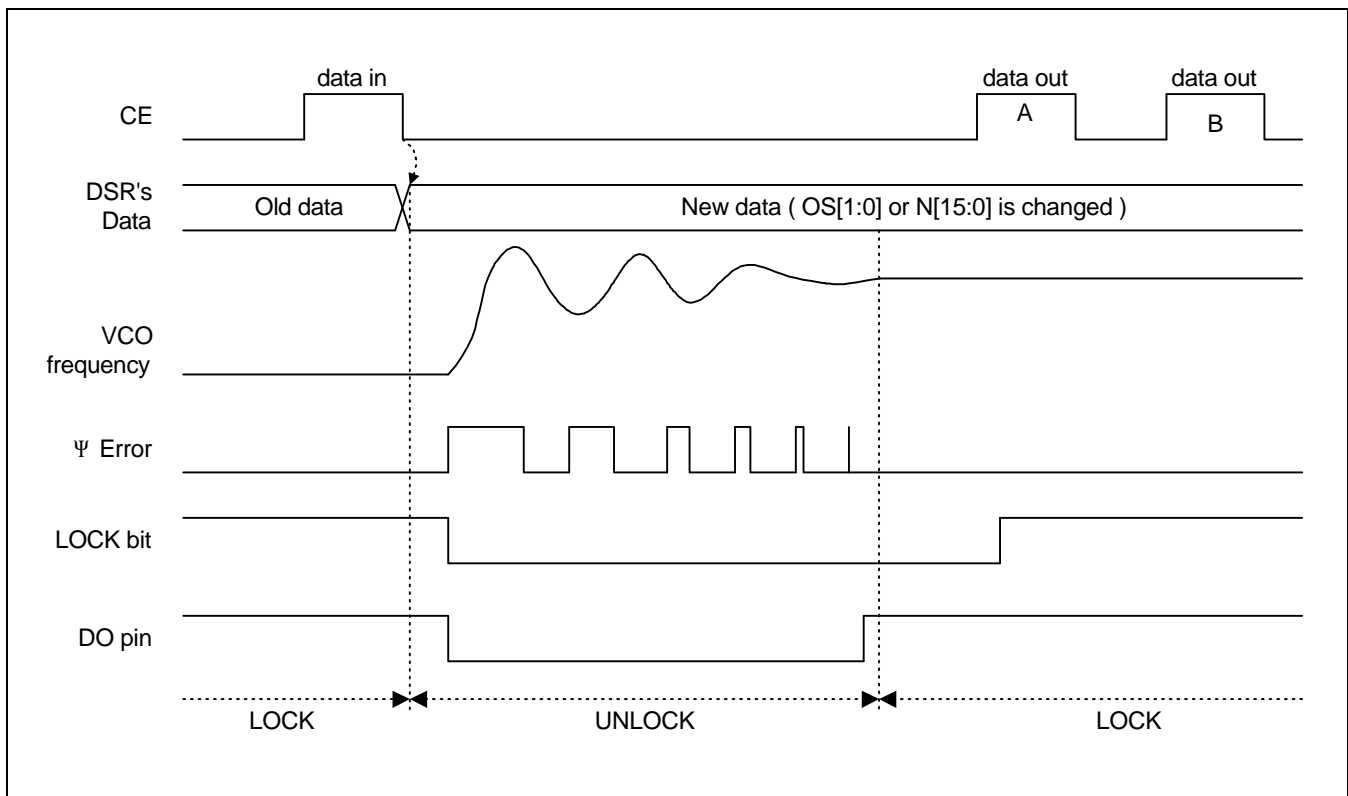

Figure 14. Lock detection timing diagram
- ◆ LOCK bit in serial data shows UNLOCK because VCO frequency isn't stable (Figure. 14 A)
→ wait at least several cycle and check LOCK again(Figure. 14 B)